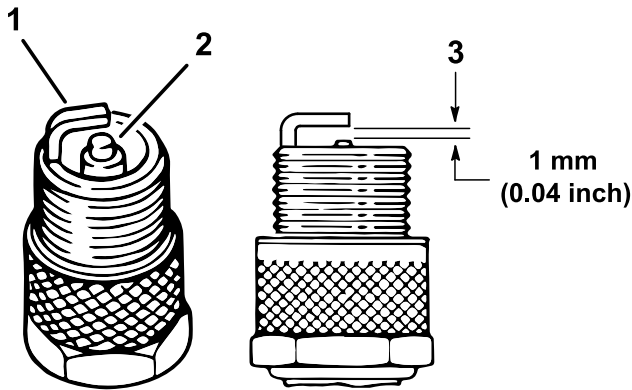

Figure 36
4. Check the condition of the side electrode, center electrode, and center electrode insulator to ensure that there is no damage (Figure 36).
5. Set the air gap between the center and side of the electrodes at 1 mm (0.04 inch) as shown in Figure 36.